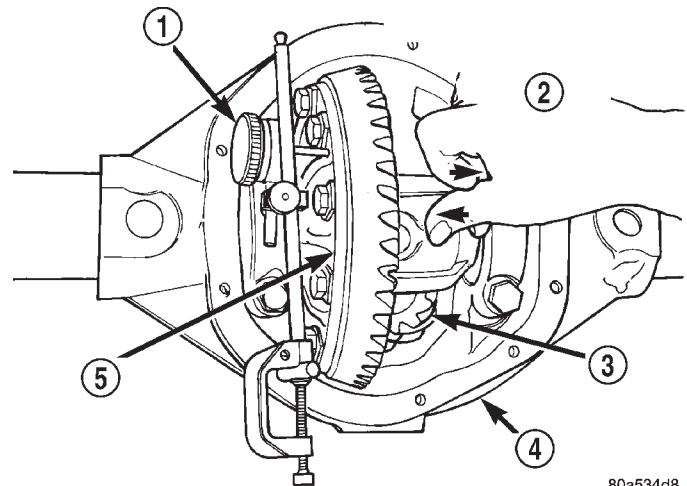

Fig. 102 Hold Differential Case and Read Dial Indicator
(23) Push and hold differential case to ring gear side of the axle housing (Fig. 102).
(24) Record dial indicator reading (Fig. 102).